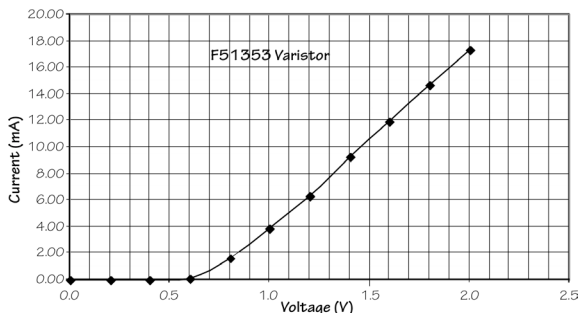

Fig. 3—Sample linear graph
A graph is to convey numerical information in a way that shows a relationship or a trend. See the samples below in Figs. 3 and 4. Here are some standards for making graphs:
- The reader should be able to determine a value of the data from your graph. For example, in Fig. 3 below, the current at a voltage of 1.5 V appears to be about 10.8 mA.